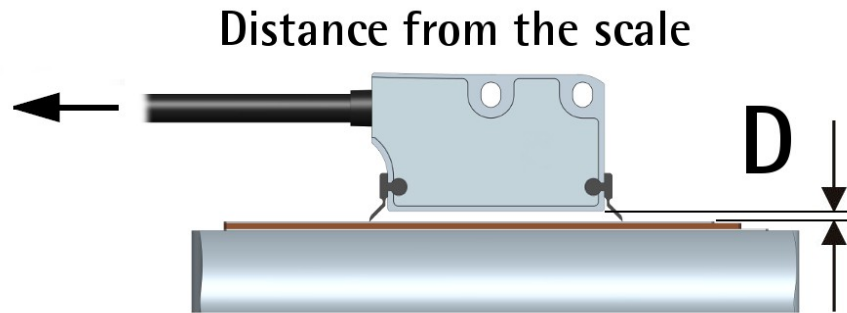
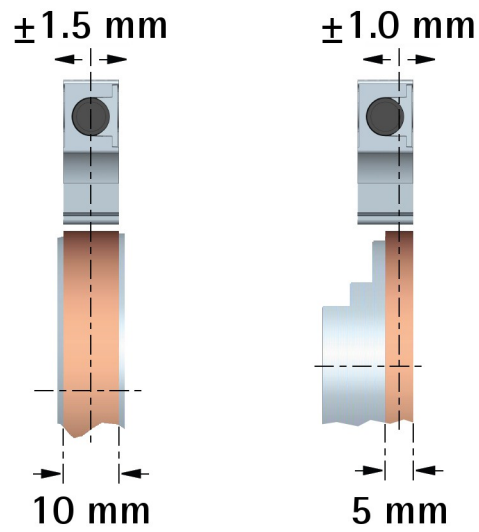
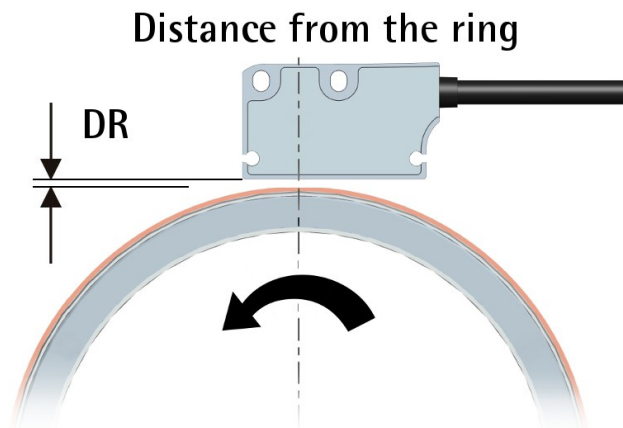

Figure 1 - Encoder / tape mounting gap
Figure 5 - Sensor / ring alignment
Figure 6 - Sensor / ring mounting gap
You can mount the readhead in both directions over the tape. The arrow in Figure 1 indicates the **standard counting direction** (the rising edge of A signal leads the rising edge of B signal) when the sensor moves in the direction indicated by the arrow; further information in the "4.6 Counting direction" section on page 21.
The distance D (see Figure 1) between the bottom of the encoder and the MT magnetic scale must be as follows:
When the sensor is installed on magnetic rings having a 10 mm / 0.4" wide magnetic surface, line up both the sensor and the ring on the central axis. When magnetic rings having a 5 mm / 0.2" wide magnetic surface are used, line up the sensor and the ring as shown in Figure 5; please consider that the incremental sensor is located laterally in the sensing head. With 5 mm rings the mounting direction of the ring makes no difference (but ascertain that the sensor is properly aligned on the correct side!).
To learn about the mounting tolerances refer to the tables below as well as to Figure 5 and Figure 6.
The positive counting direction (the rising edge of A signal leads the rising edge of B signal) is achieved when the sensor moves on the tape according to the arrow shown in Figure 1; or when the ring turns according to the arrow shown in Figure 6. For further information see the "4.6 Counting direction" section on page 21.
3.11 Optional cleaning wipers (Figure 1)
The **standard counting direction** (the channel A leads the channel B) is to be intended with sensor moving as shown in Figure 1 in a linear application; with ring turning as indicated by the arrow in Figure 6 in a rotary application.
By default the phase relationship between A and B channels is so that the rising edge of A channel leads the rising edge of B channel when the encoder moves in the direction shown by the arrow in Figure 1 in a linear application; or when the ring turns as indicated by the arrow in Figure 6 in a rotary application (see the "4.5 ABO, /ABO output channels" section on page 21). Thus the counter in the subsequent electronics will get a count up. It cannot be changed.